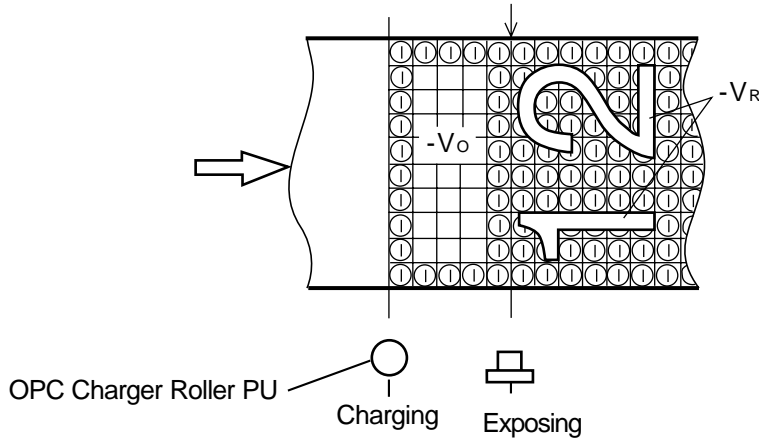

Fig.4-13
- (2) Process of Exposing (Refer to Fig.4-13.)
- v) An invisible electrostatic latent image is formed on the OPC belt as shown in Fig. 4-13.